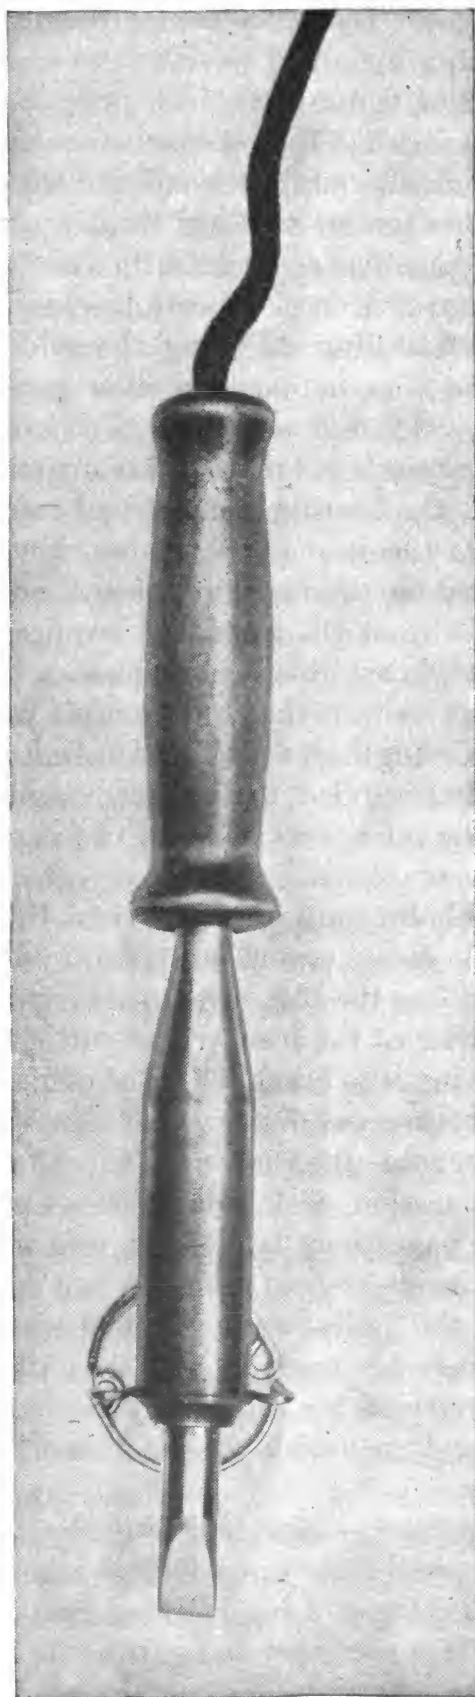

FIGURE 25.—Electric soldering iron.
*b.* The soldering iron may be heated by placing the copper tip in the flame of a blow torch or by passing an electric current through a resistance heating element which constitutes an integral part of the electric soldering iron. Figure 25 illustrates the electric soldering iron which modern radio shops use almost exclusively. These irons